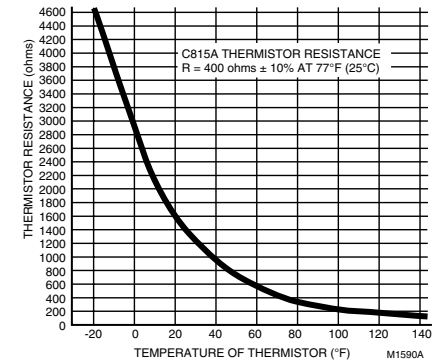

Fig. 15. Thermistor resistance chart.
- 3 Take outdoor temperature at thermistor location and find the correct thermistor resistance on chart in Fig. 15.